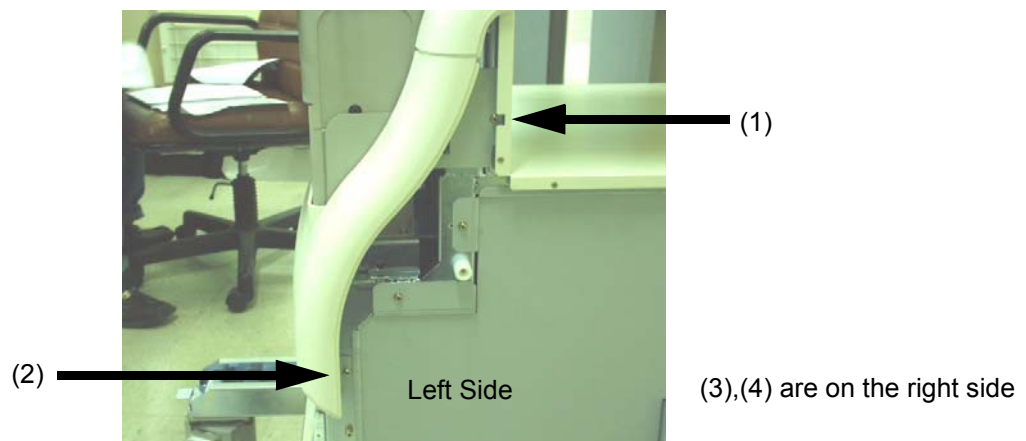

Figure 8-84 Unscrew 2 screws on the left side
- 4.) Unscrew four screws (1-4). Refer to Figure 8-84 on page 8-39 .